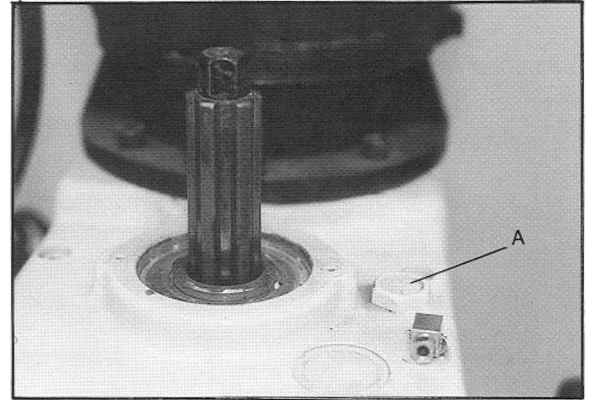

Figure 18
7. Remove the filler plug (A, Figure 18).
10. Pour one (1) gallon of new lubricant (SHC-634 Oil Heavy Medium) through the filler hole. **CAUTION: Use of any other type of lubricant other than that specified may cause damage to the drill press.**